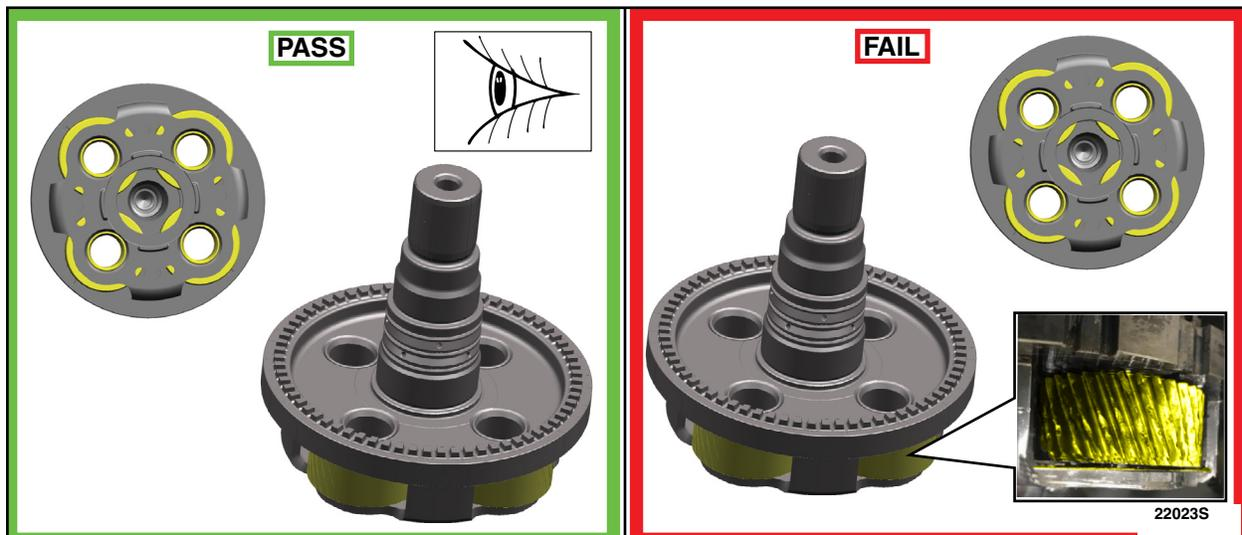

FIGURE 26
29. Inspect the output shaft and planetary carrier No. 4 assembly for damage. Are the output shaft and/or planetary carrier No. 4 assembly damaged? See Figure 26.